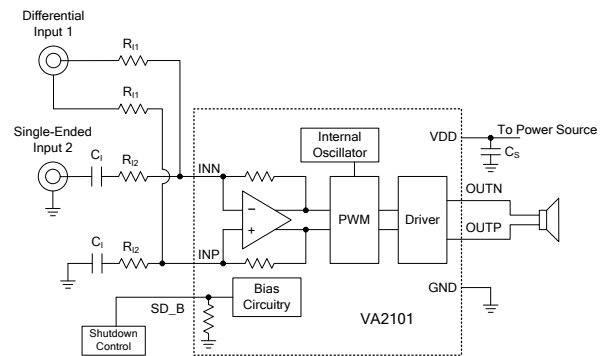

Figure 6. Dual Input with a Single-Ended Input and a Differential Input Configuration
A typical application with one single-ended source and one differential source shows in Figure 6. Ground noise can couple in through INP terminal with this method. It is better to use dual differential inputs. The cut-off frequency of the single-ended input is set by C_I shows in Equation (13). To assure that each input is balanced, the single-ended input must be driven by a low-impedance source even if the input is not in use.